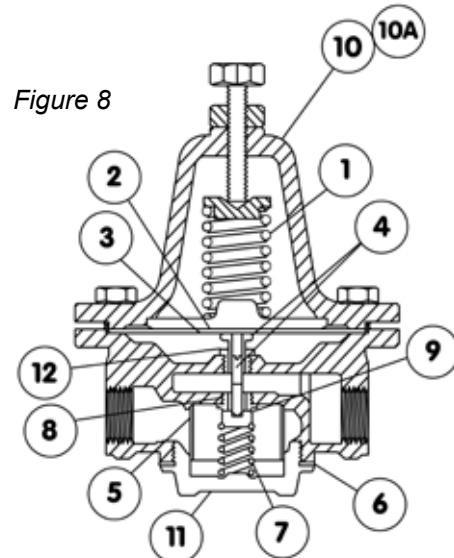

Figure 8
Operation of Watts Pressure Reducing Valve - 3/4": (Refer to Figure 8) Steam enters the valve at the inlet port and passes up-ward through the seat (8) into the discharge side of the valve. As pressure in the discharge side increases, it forces the diaphragm (2) upward,